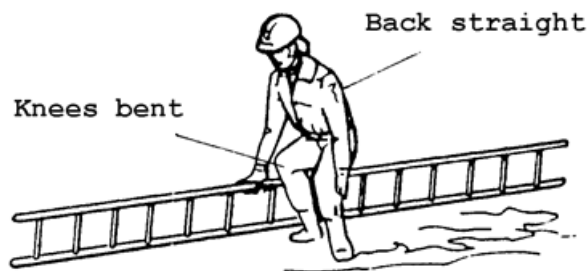

FIG 21.
- Bend the knees and grip one stile near the middle firmly. Keep the back straight and straighten up. (Fig 21)